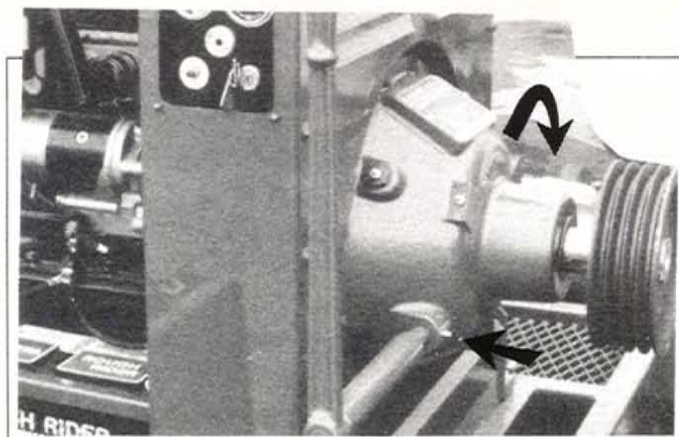

Fig. 22 CLUTCH LEVER PIVOTS
2. Grease PTO clutch control lever pivots at 2 locations (1 shot). See Fig. 22